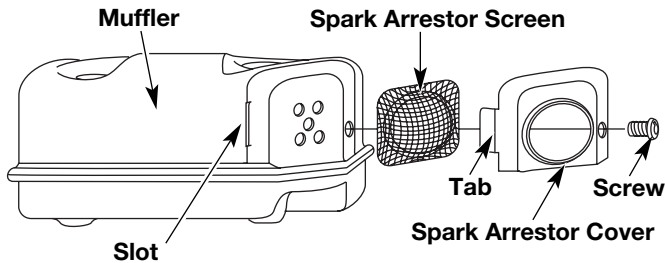

Fig. 46
2. With a flat blade screwdriver or Torx T-20 bit, remove the screw attaching the spark arrestor cover to the muffler (Fig. 46).